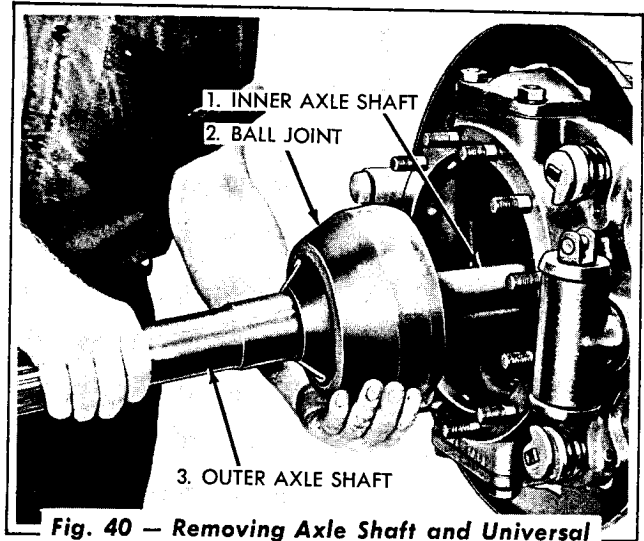

Fig. 40 — Removing Axle Shaft and Universal Joint Assembly
- a. Remove the axle shaft and the ball joint as an assembly (Fig. 40), being careful not to damage the oil seal that is located in the axle housing.